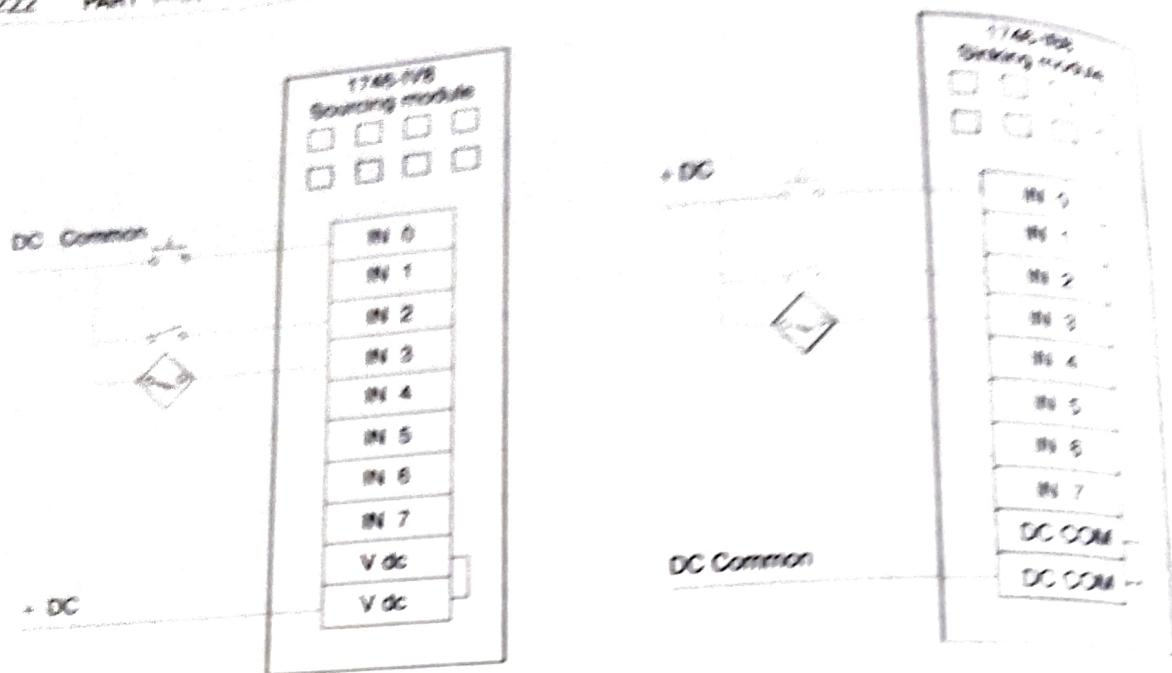

Figure 7-30 Wiring diagrams for the Allen-Bradley SLC 500 1746-IV8 and 1746-IB8. (Used with permission of Rockwell Automation, Inc.)
3. We have sinking and sourcing input modules available, but do we have both sinking and sourcing sensors available? No, all available sensors are in the sourcing configuration. From our lessons in the text we have learned that if we have a sourcing sensor, we must choose a sinking input module. For this application we will choose the 1746-IB8, a sinking input module. Always verify wiring diagrams before choosing one. Compare input module wiring with the sensor's wiring diagrams, as in Figure 7-30.